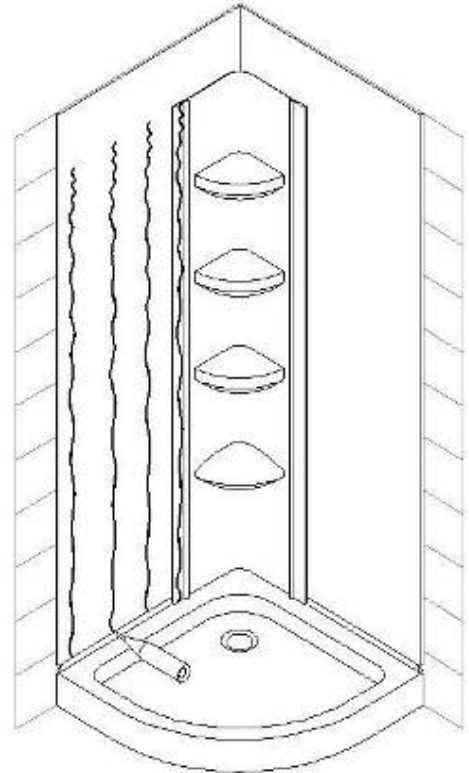

Fig 4
4. Run a bead of silicone down the next area where the side panel will rest (this should be the side where there are no controls or valves) (Fig 4).